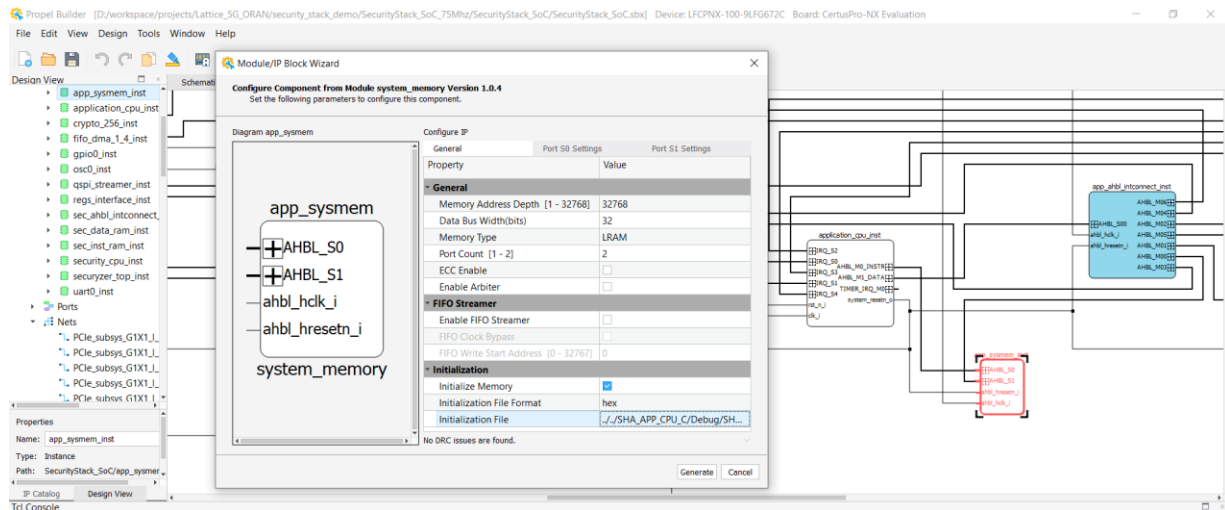

Figure A.12. Loading the Application CPU Firmware
- Load the Application CPU firmware in the Application CPU system memory (module instantiation name=app_system) as shown in Figure A.12.